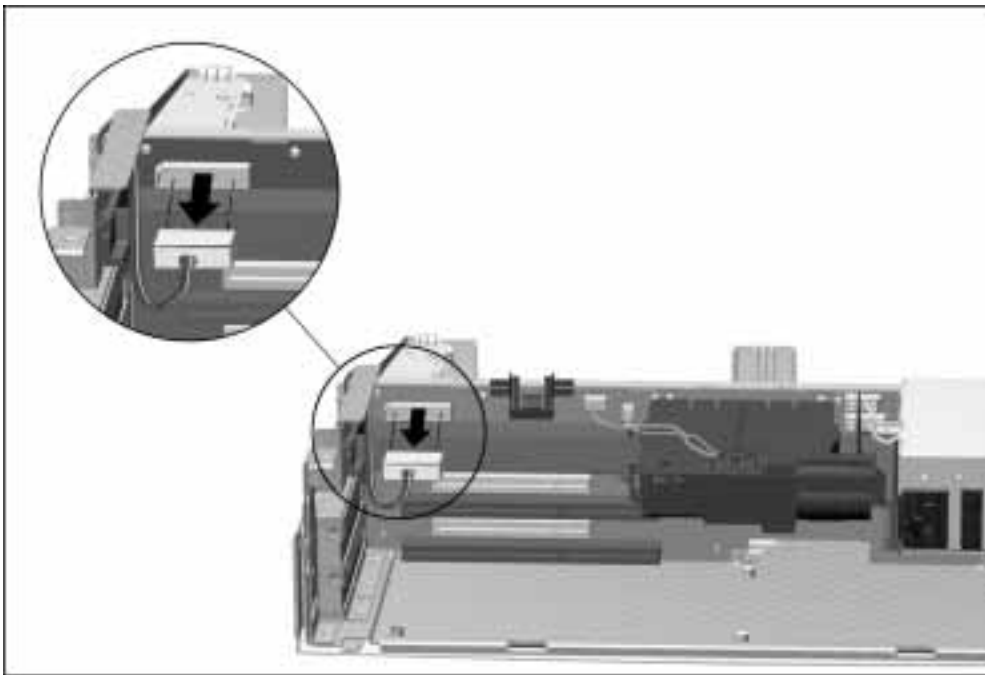

Figure 5-38. *Disconnecting the Control Panel Cable*
6. Disconnect the control panel cable from the backplane assembly (Figure 5-38).